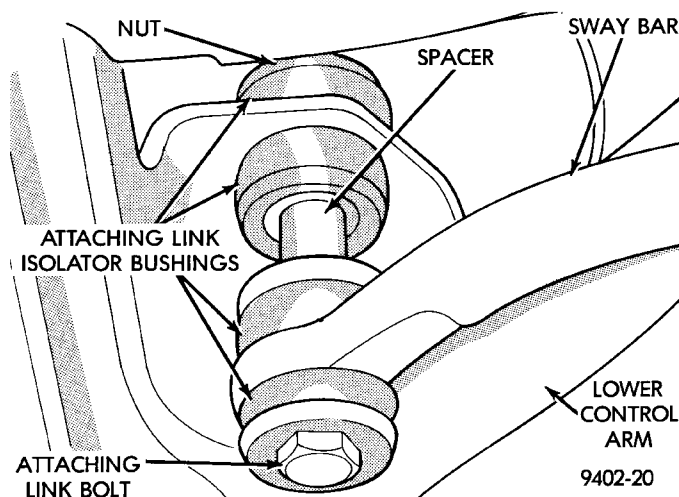

Fig. 41 Stabilizer Bar Attaching Link Assembly Bushing Orientation
(1) If inspection determines replacement of stabilizer bar to lower control arm attachment link bushings is required, replace bushings before installing stabilizer bar. Refer to (Fig. 41) for proper orientation of attaching link bushing components.